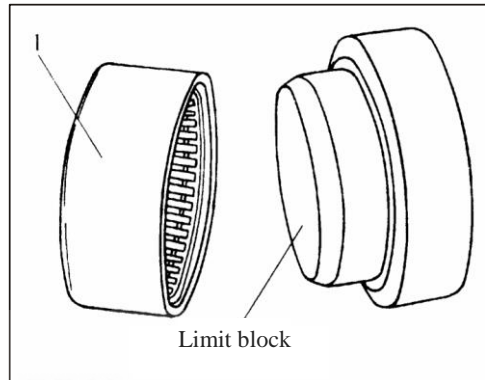
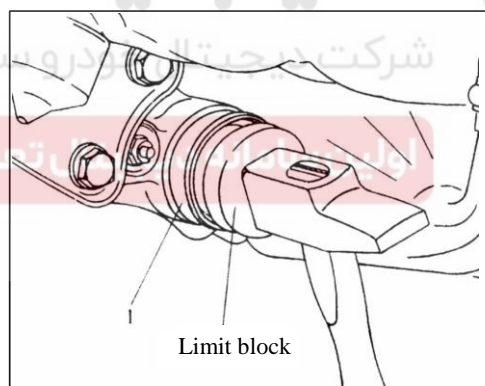

Figure 4-46 Install Bearing on limit block
Figure 4-47 Install Bearing into Rear Axle Tube
(2) Install rear axle tube outer needle bearing: refer to Figure 4-46, put new needle bearing on assembly special service tool limit block, then put bearing into rear axle tube, gently knock on assembly limit block with mallet (as shown in Figure 4-47), to help to install needle bearing in position, then remove limit block, and coat needle bearing with grease.